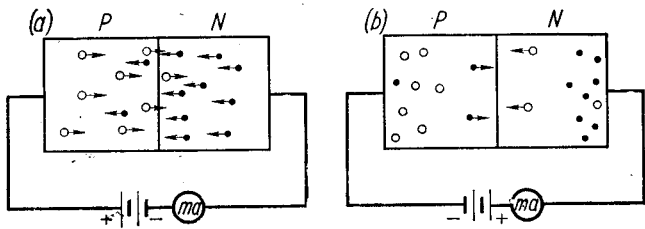

Fig. 9a, b. Current flows across p - n junction with forward and reverse bias
2. Consider now what happens when p -type germanium is joined to n -type germanium and a voltage is applied across the junction. With the p -type germanium biased positively, as illustrated in Fig. 9a, the holes are repelled by the
tery is carried by positive charges, in the direction shown in Fig. 9a.